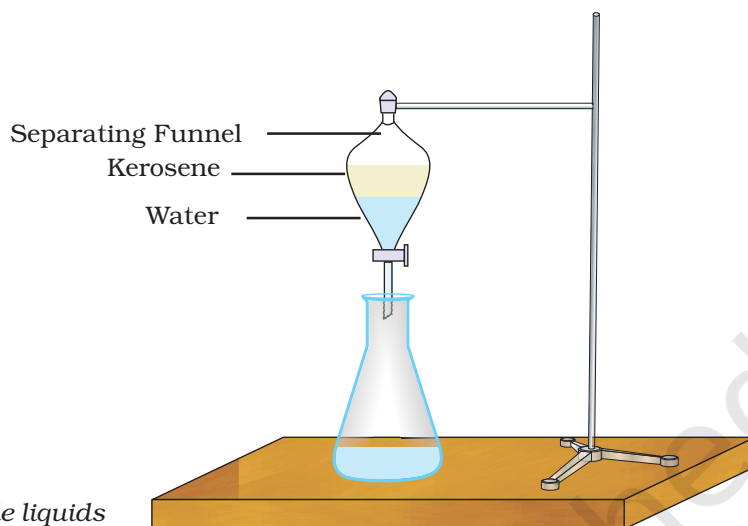

Fig. 14.1 : Separation of immiscible liquids
1. Take a mixture of two immiscible liquids (say water and kerosene) in a separating funnel (Fig. 14.1).